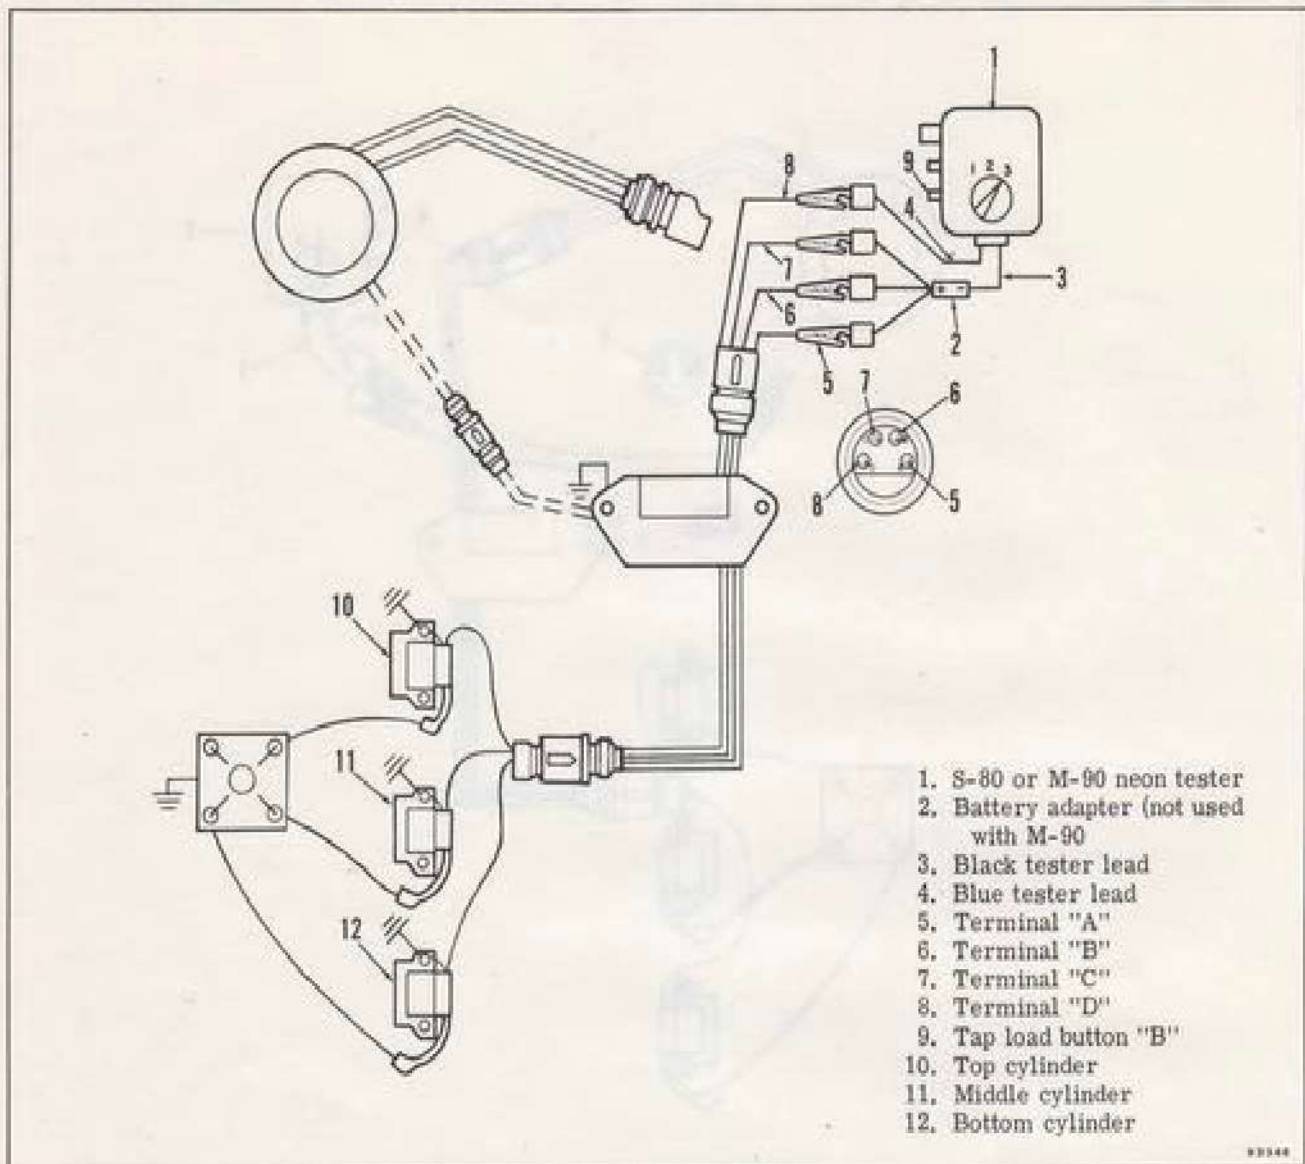

Figure 4-25. Trigger Input Test
- a. Insert a jumper wire to terminals "A" and "B" in the stator end of the two-wire connector. See Figure 4-25.
- c. Attach a jumper wire to the blue lead of the neon tester, then insert the jumper wire to terminal "D" in the power pack end of the four-wire connector. See Figure 4-25.
lead of the tester), and insert the jumper wire to terminal "C" in the power pack end of the four-wire connectors. See Figure 4-25.
f. Crank the engine and tap load button "B." When load button "B" is pressed, spark should jump at the gap of the spark tester connected to button ignition coil only. See Figure 4-25. If a spark occurs at other gaps of the spark tester during this test, replace the power pack.